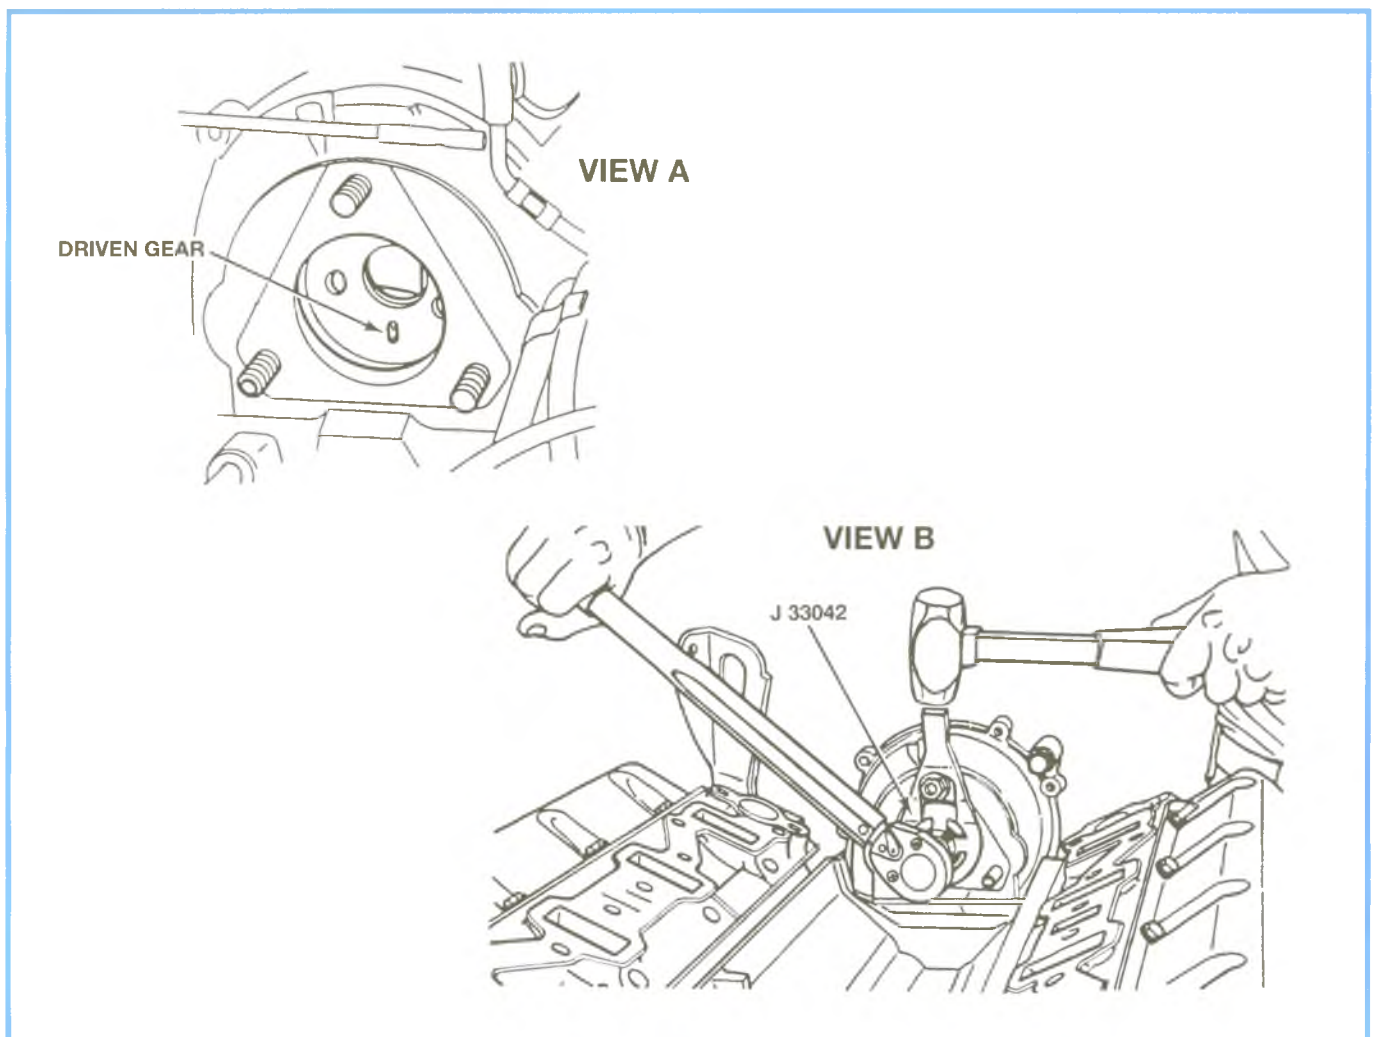

Figure 2-33, Static Timing Mark Installation
1. With the injection pump removed, rotate the engine to the TDC position for the #1 piston so that the slot in the injection pump driven gear is in the 6 o'clock position (see Figure 2-33, view A).
4. Rotate the special tool toward the engine left cylinder head with 48 N·m (35 lb-ft) torque, and strike the scribe of the tool with a mallet (see Figure 2-33, view B).